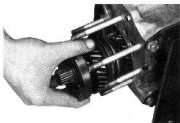

Fig. 9-13
19. With a wooden hammer drive out the transfer output rear shaft toward the transfer front case by lightly tapping from the parking brake side. The output rear bearing bush and output shaft gears can be removed together with the output rear shaft as shown in the Fig. 9-13.